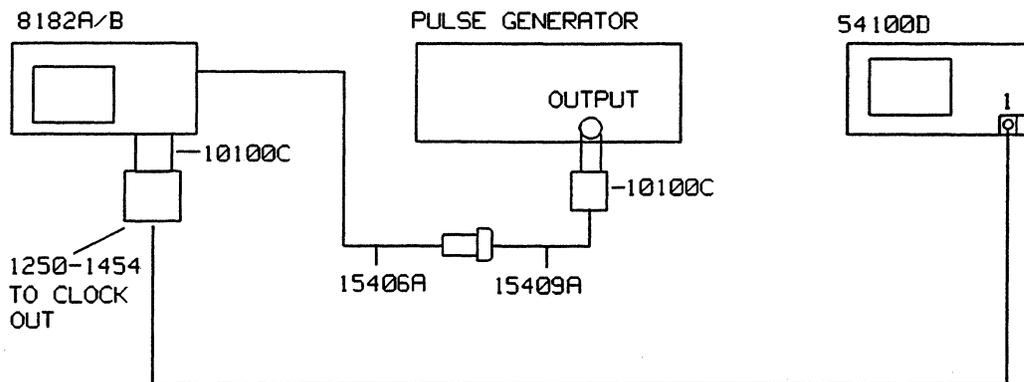

Figure 12-5. Test Setup for the Compare Window Width Test
5. Connect the equipment as shown in Figure 12-5.